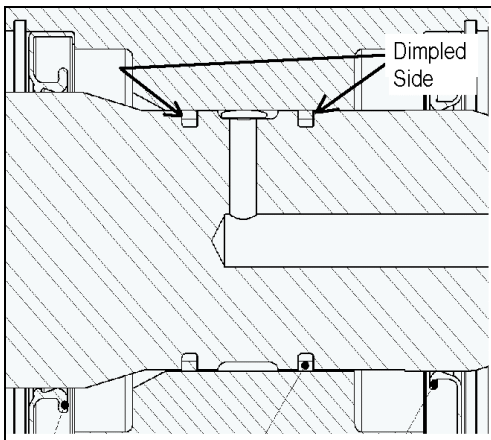

Figure 1
2. Install qty of 2, seals (Items 12 & 13) into bore in endcover (Item 6). Press seals lightly. *Note the direction of seal lip on drawing per Figure 1.*
5. Using piston ring pliers, install hook piston rings onto shaft in the configuration shown in Figure 1 and close hooks once the rings are installed on the shaft. **ATTENTION: the**